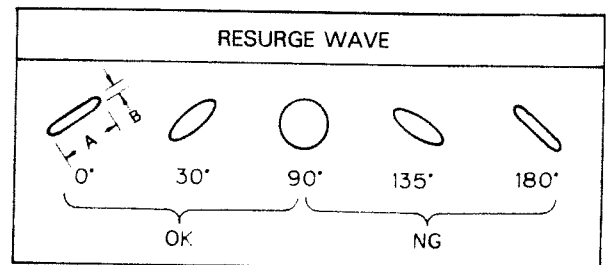

Fig. 2-2
- (2) Playback (both FWD side and REV side) the test tape; adjust the azimuth screw so that section A of the resurge wave form is maximum and section B is minimum. **Fig. 2-2**